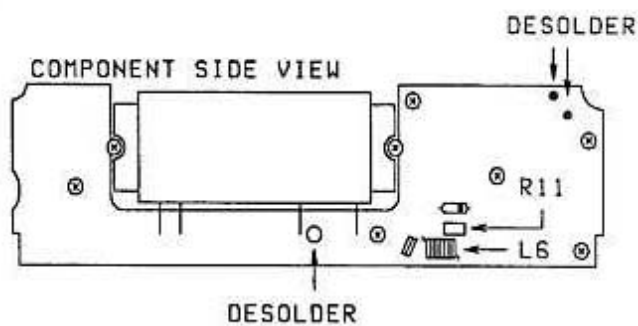

FIGURE 2
4. Remove the 7 screws that secure the final board to the chassis. Figure 2.
5. Remove the 2 screws that secure the power module to the chassis. Figure 2.
7. Desolder the center conductor and shield of the VHF antenna coax from the final board and pull the coax out of the heat sink. Figure 2.
8. Desolder the terminal next to pin 3 of the power module. Figure 2.